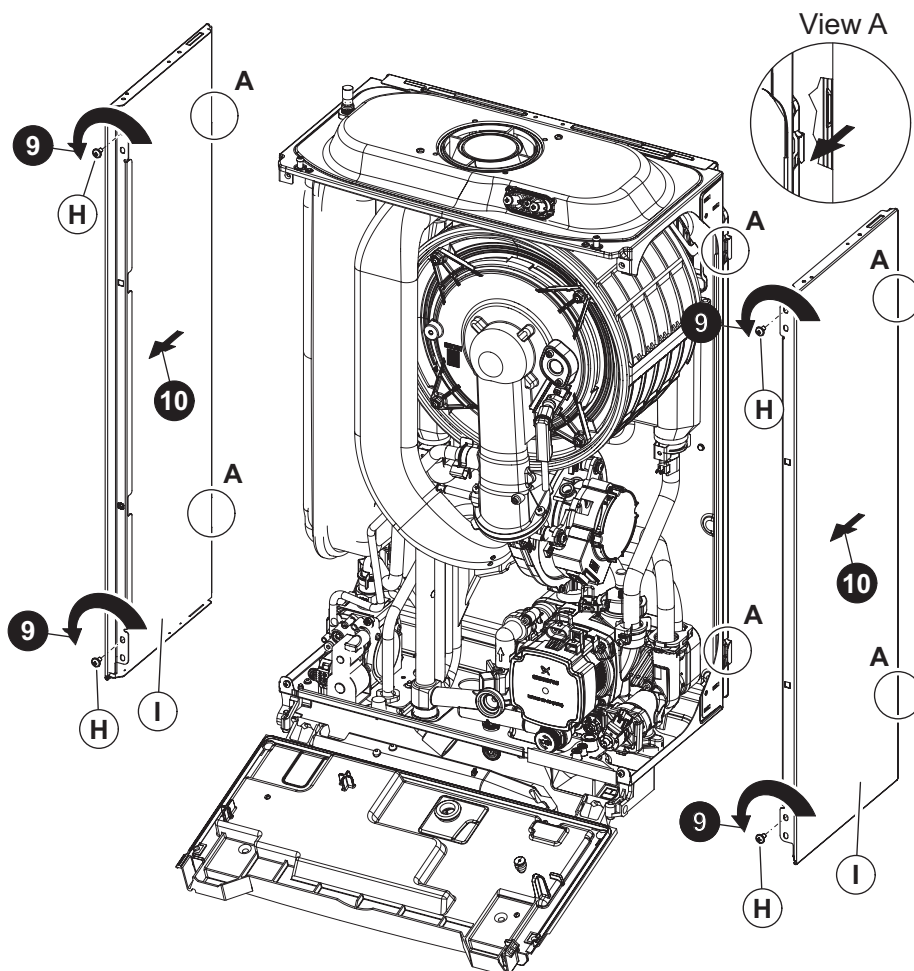

Fig. 7.4
### Side panels - Fig. 7.4
9. Remove the screws 'H' securing the side panel 'I'. Lift the side panel and pull it forwards unhooking it from the rear panel (view 'A' in Fig. 7.4).